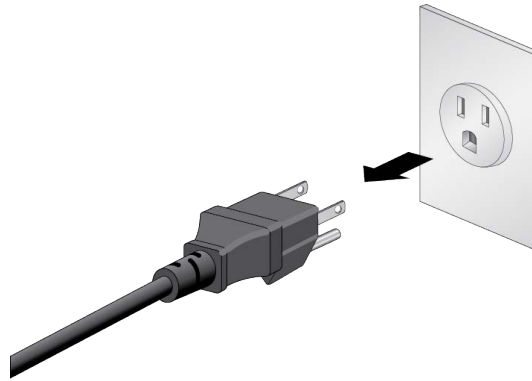

Figure 28. Powering Off the AC Power Supply
1. Unplug the power cord as shown in Figure 28.